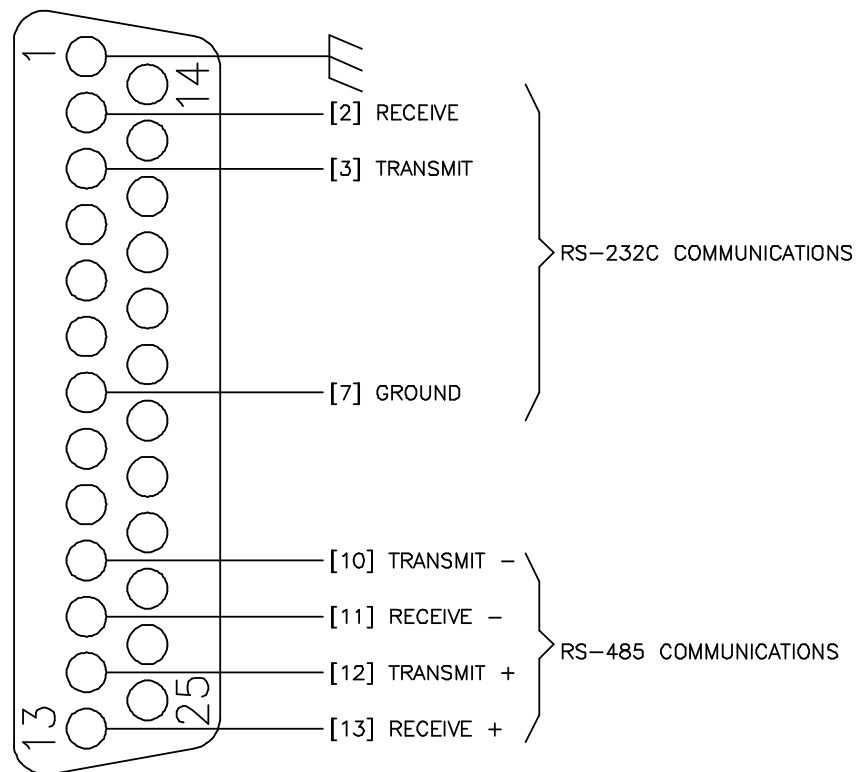
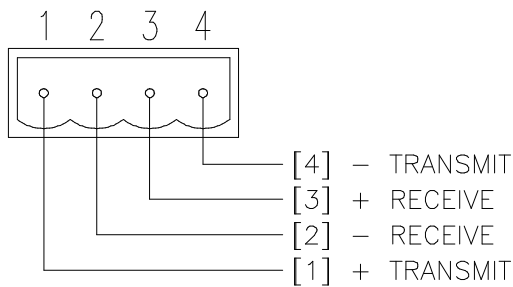
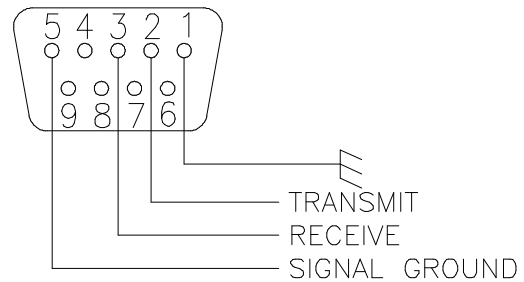

Figure 2.7 - PORT 1 Pinouts
Figure 2.8
Figure 2.9
4. Connect the communications cables from PORT 1, PORT 2, and PORT 3 to their respective communication devices. Refer to the pinouts shown in **Figure 2.7**, **Figure 2.8**, and **Figure 2.9**, respectively.